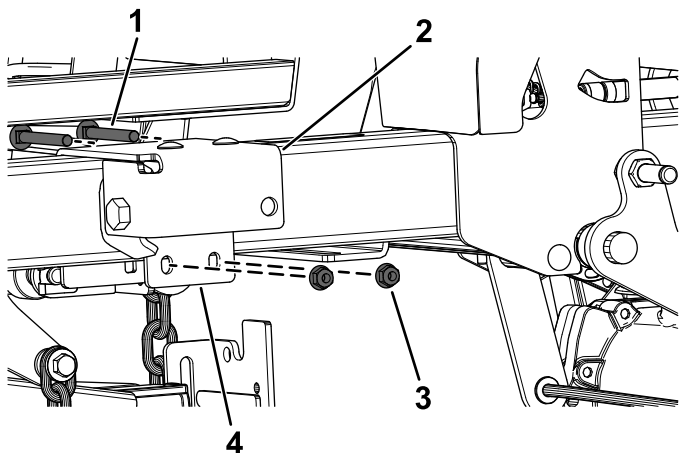

Figure 12
4. Loosely secure the inner actuator bracket to the outer actuator bracket using the 2 carriage bolts (5/16 x 2-3/4 inches) and 2 locknuts (5/16 inch) as shown in Figure 12.